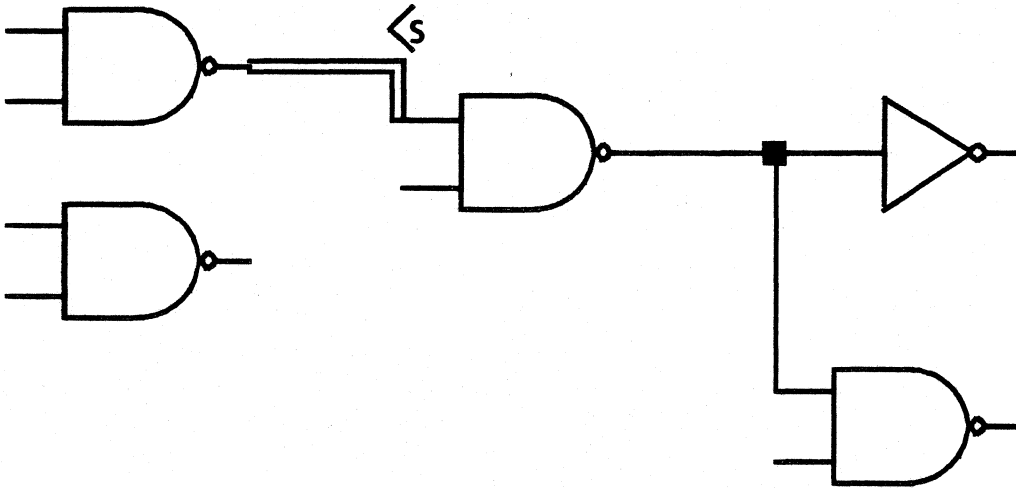

Figure 2.20
- 1) Select the connection path you want to edit. You cannot edit past solder dots. See figure 2.20.